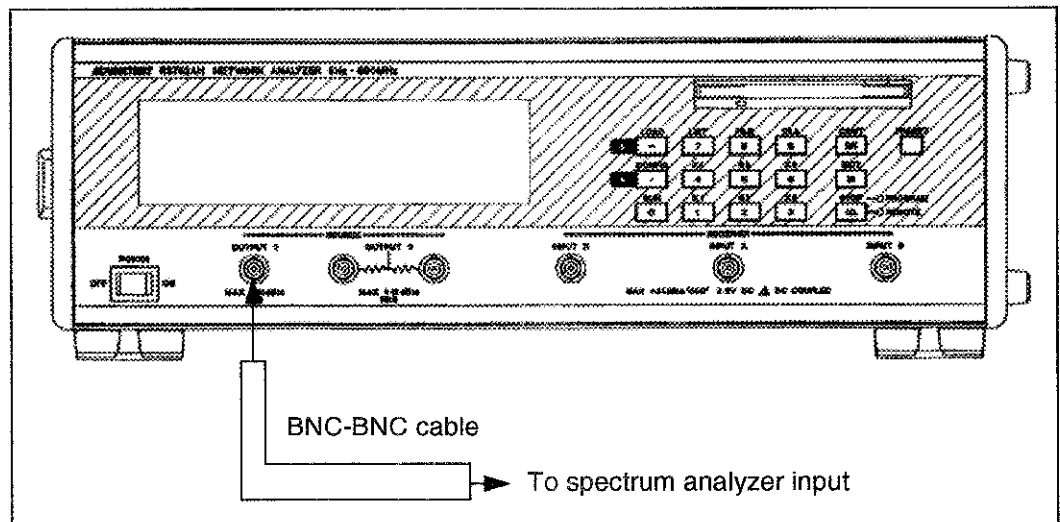

Figure 5-4
- ① In order to measure spectrum purity, connect the R3752H series and the spectrum analyzer, R3265A as shown in Figure 5-4.